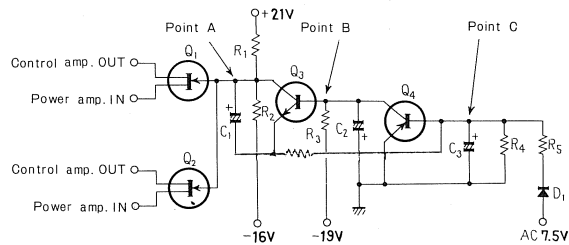

Fig. 5 AF Muting
When the power switch is set to ON, the potential of point C in Fig. 5 instantly rises due to C3 & R5 time constant, and Q4 becomes OFF. Point B potential at this time gradually increases with the C2 & R3 time constant and normally reaches -19V. Q3 becomes OFF when point B is below -15.4V, from which time point A potential rises with the C1 & R1 time constant and normally reaches approximately 8V from R1 & R2. FET Q1 & Q2 operate when point A potential is above 0V. The muting interval (T) extends from the time the power supply is set to ON to when point A potential reaches 0V. This interval is set for 6 ~ 7 seconds.